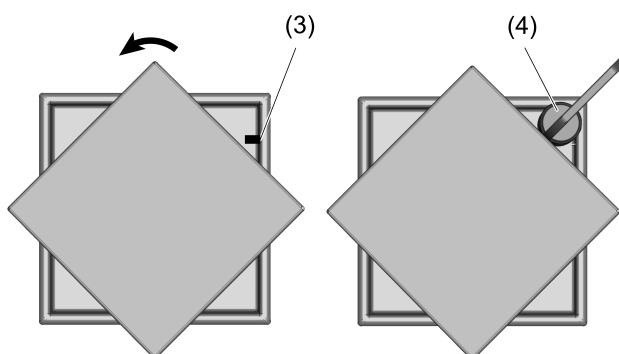

Figure 2: Dismantling a light attachment
- Rotate the light attachment by 45° to expose the marking (3) (Figure 2).
- Place the magnet (4) at the level of the marking (3) on the cover until a click is heard.